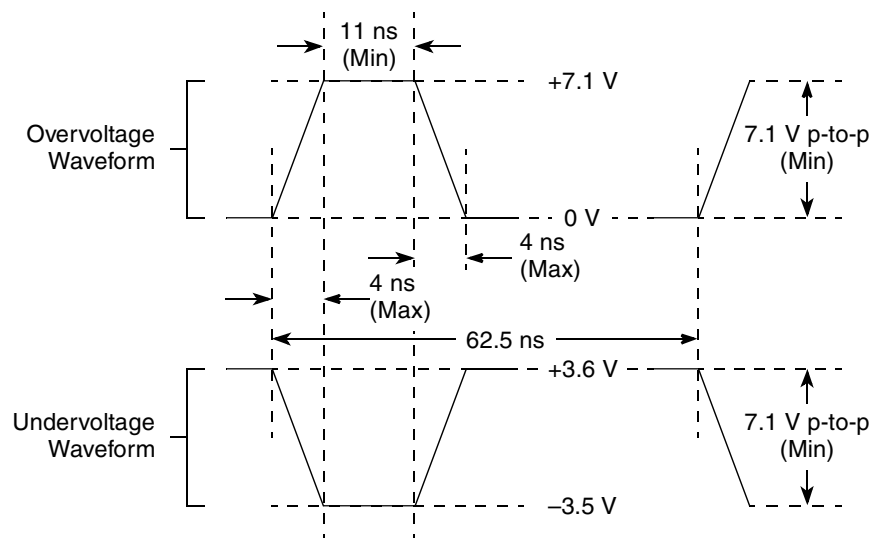

Figure 4. Maximum AC Waveforms on PCI interface for 3.3-V Signaling
- OV_{IN} on the PCI interface may overshoot/undershoot according to the PCI Electrical Specification for 3.3-V operation, as shown in Figure 4.
Figure 4 shows the undershoot and overshoot voltage of the PCI interface of the device for the 3.3-V signals, respectively.